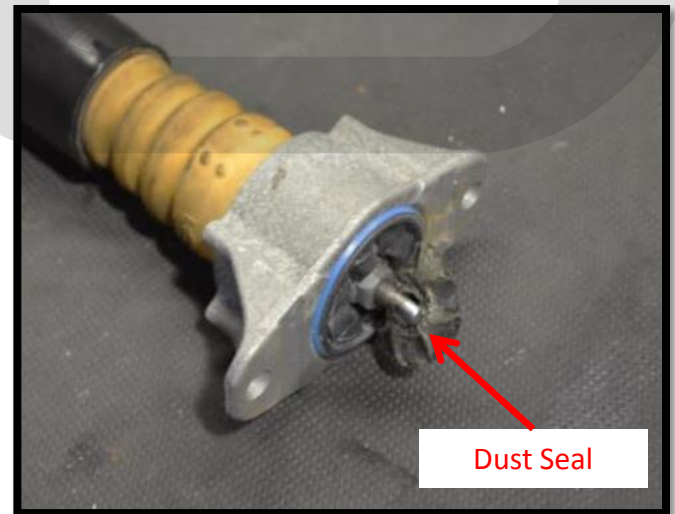

Figure 6g
- j) Peel back the dust seal on top of the aluminum shock mount, and remove the 12mm nut (Figure 6g). If the strut spins you can use pliers to hold the top and a wrench to loosen the nut.